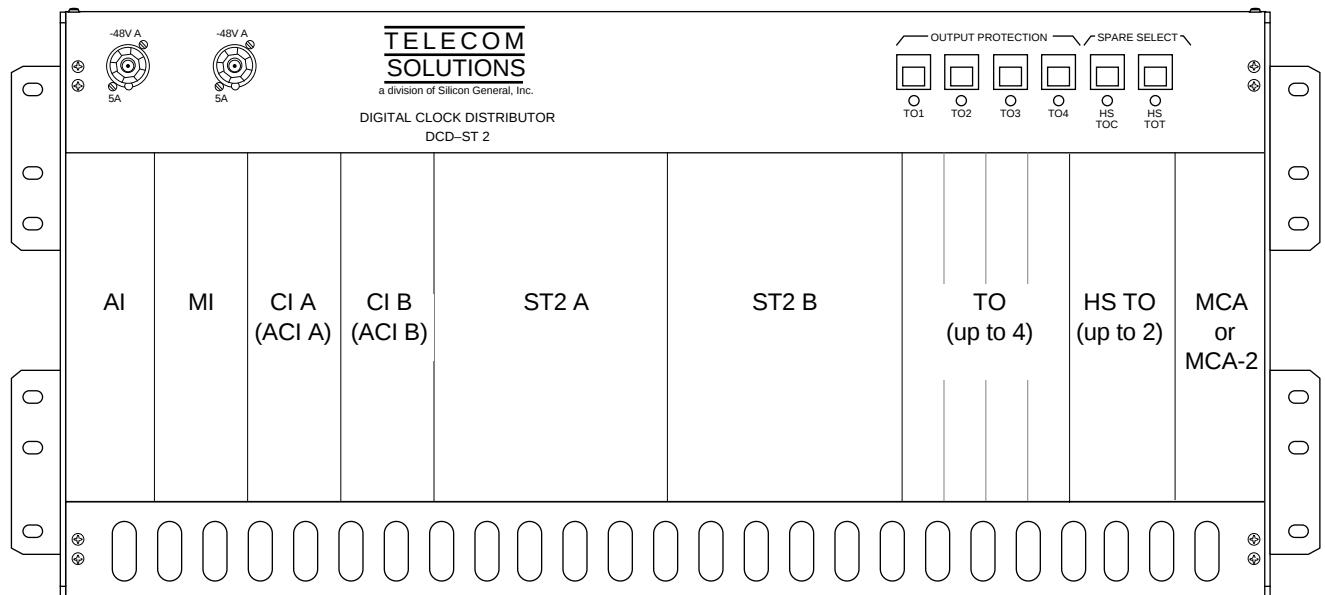

Figure 1. DCD-ST2 Master Shelf
3.27 Figure 1 shows the ST2 master shelf which houses common equipment (an AI card, CI or ACI cards, and ST2 cards), and up to four TOxA cards. A fully configured ST2 System (four shelves) holds up to 34 TOxA or SCIU cards, or combinations of each. The ST2 shelf cannot be used as an expansion shelf.